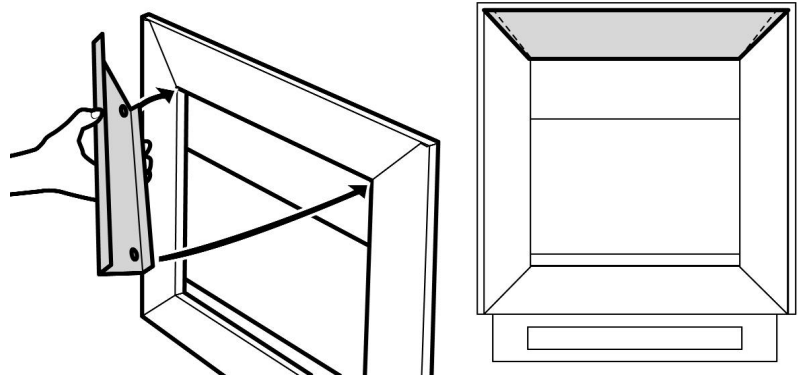

Figure 31 Fitting the top trim.
8. Locate the top trim as in figure 31.
1. Supplied with the fire are two fascia securing brackets and two machine screws. Secure the brackets to the hotbox using the machine screws supplied (See figure 31).